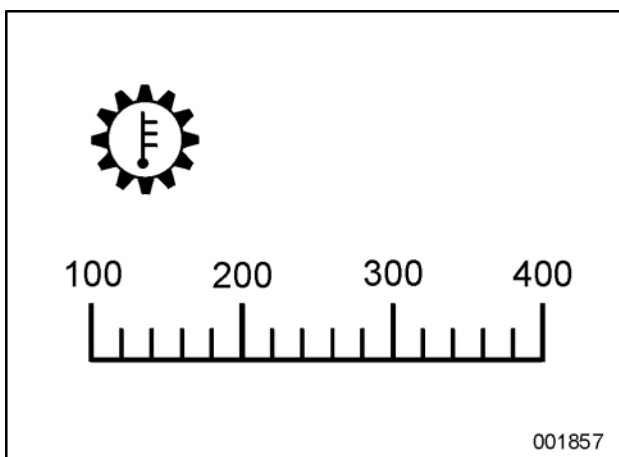

Figure 13: Transmission fluid temperature shown on MFD (no reading)
- New is the information on the temperature of the transmission fluid (see Figure 13). Press button 12, Figure 9 twice to have this information shown on the MFD.